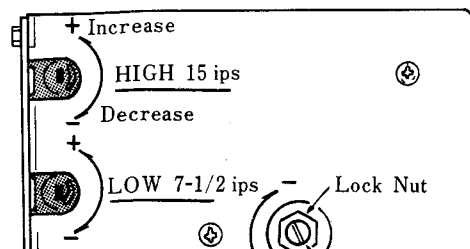
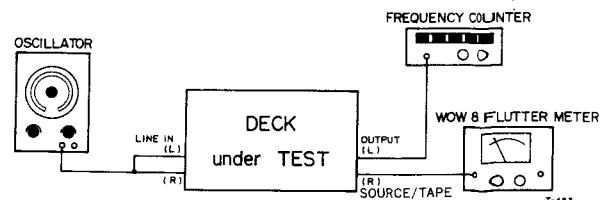

Fig. 8-6 Tape Speed Adjustments
Fig. 8-7 Test Connections for Wow/Flutter and Tape Speed Test
These tapes contain a highly accurate 3,000 Hz tone. Connect a digital frequency counter to either line OUTPUT jack. See Fig. 8-7. The indicated frequency should be 3,000 Hz ( $\pm 10$  Hz or less) for both speeds. If necessary, adjust Tape Speed adjusters on the CAPSTAN MOTOR. See Fig. 8-6.
1. Connect Test equipment to the unit as shown Fig. 8-7. (Except oscillator).
1. Connect Test equipment to the unit as shown in Fig. 8-7.